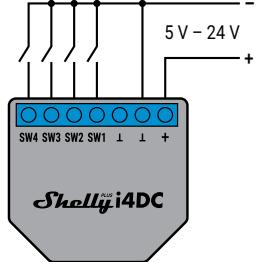

fig. 1
**CAUTION!** Do not install the Device where it can get wet. Connect a switch or a button to a SW terminal of the Device and the Negative wire as shown on fig. 1.